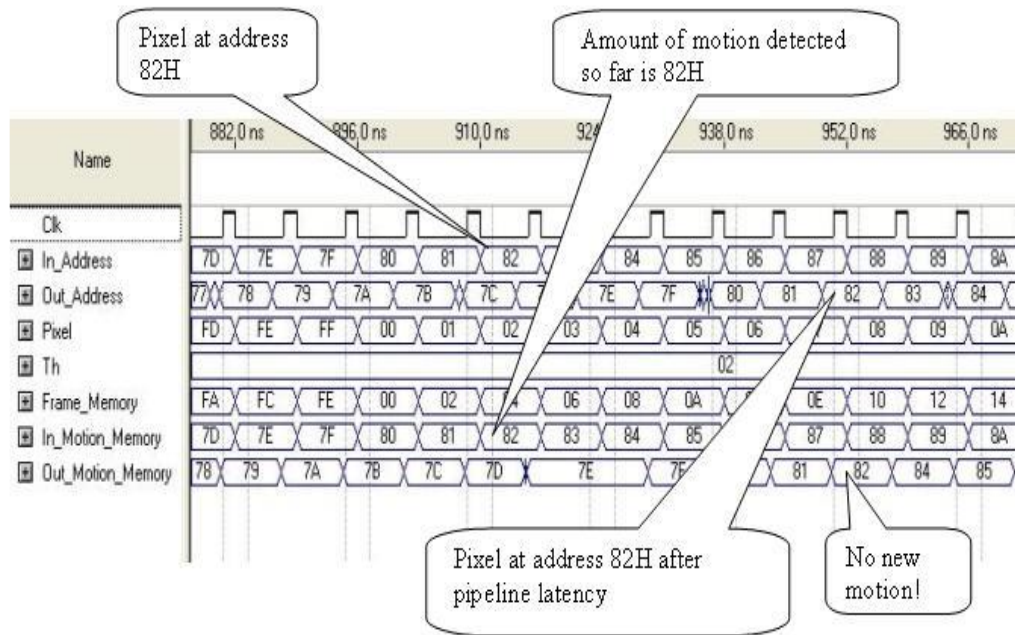

Figure 4: Clouds over the waveform example
- Draw clouds on the waveform with explanations of what is happening (Figure 4).